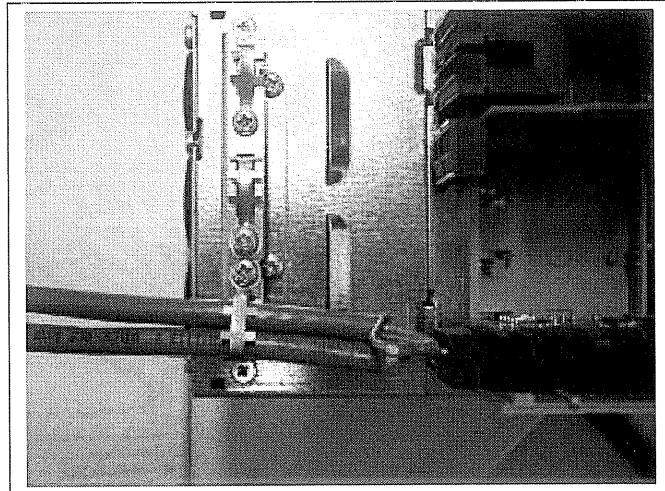

Figure 4-9. Grounding the CANopen Cables
- 5 Place the CANopen board into slot E of the control board (see board installation in section 5) and fix both the CANopen cables on the frame with the clamp. See Figure 4-9.